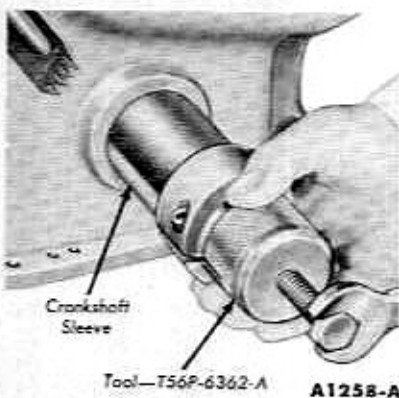

FIG. 20—Crankshaft Sleeve Removal
8. If the crankshaft sleeve is not stepped down (the same O.D. on both ends), remove it as shown in Fig. 20. If the crankshaft sleeve is stepped down (different O.D. on each end), remove it with a three-jawed puller (tool 7675-N).